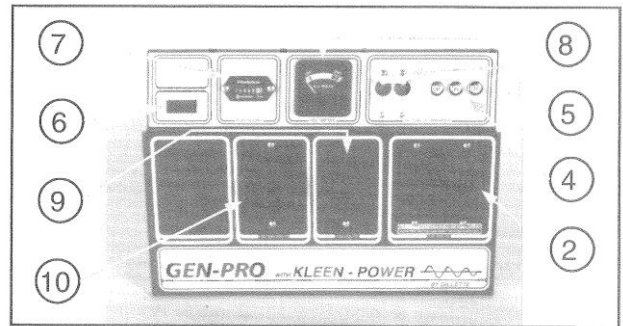

FIGURE 6 – Receptacle Panel
The receptacle panel is to be used if you plan on supplying power to the air conditioner via the motor/gen-set. **Figure 6** is a description of all nine parts of the receptacle panel. The receptacle panel is located on the tongue end of the Mobile Air Conditioner.
- b. Motor/Gen-Set – Insert plug into motor/gen-set as shown in **Figure 6 – Receptacle Panel.**